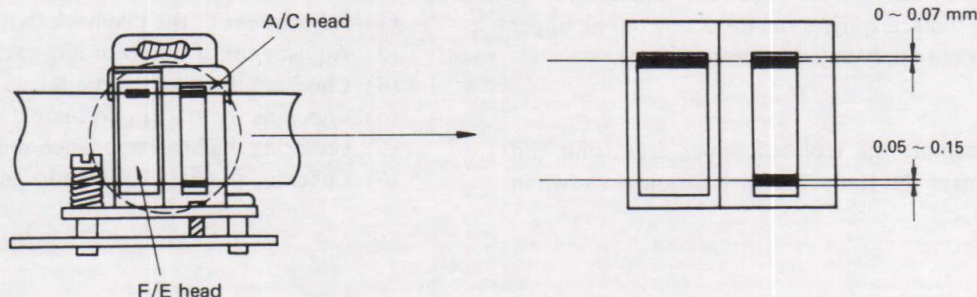

Figure 36
- ⑤ Properly adjust the height of the A/C head so that it is in the position against the tape as shown in Fig. 36.
- ① Play back a 1 kHz audio signal (or colour bars if the video is played back) recorded on the alignment tape, and then visually observe the waveform out from the audio output terminal through an oscilloscope.
- ② Gradually turn set-screws ② -A and B and screw ③ until the waveform level is at a maximum and the level variation is at a minimum.
- ③ Play back a 7 kHz audio signal (or stair waveform if the video is played back) recorded the alignment tape, and then visually observe the waveform out from the audio output terminal.
- ④ Adjust with azimuth adjustment screw ③ (3P + 8S) so that the audio output level is at a maximum.
- ⑤ Carefully check to see that the tape run has been properly adjusted.